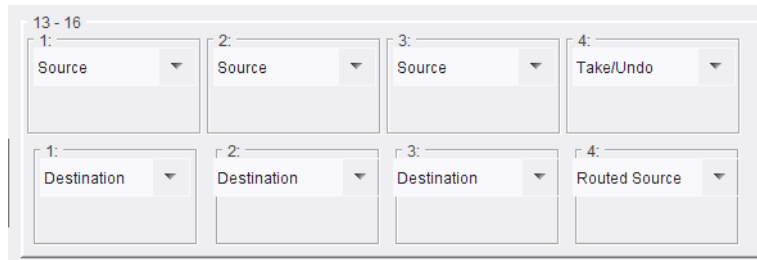

Fig. 6-14: Map Buttons 13 to 16
- 3 Select each button function type with the corresponding drop-down selection box and set button types to those shown in Figure 6-14.